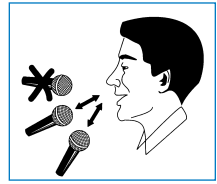

Figure 3
**Vocals** – Try using a handheld style (although mounted on a stand to reduce handling noise) cardioid or supercardioid dynamic microphone. Place the microphone roughly 3-4 inches away, and pointed somewhere between the nose and mouth. If possible, try to isolate the vocalist from any unwanted sounds – in another room would be ideal (see figure 3).
**Lead vocal** - Use a handheld, directional microphone. The microphone should be touching the lips or just a few inches away. The same technique applies to background vocalists (see figure 3, page 9).